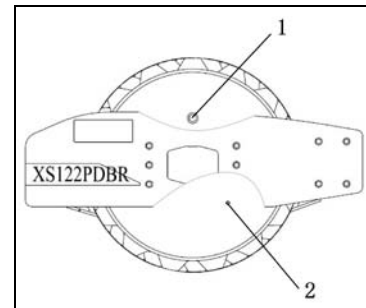

Figure 3-15
3.4.3.1 Check the oil level of the compactor cylinder (figure 3-15)